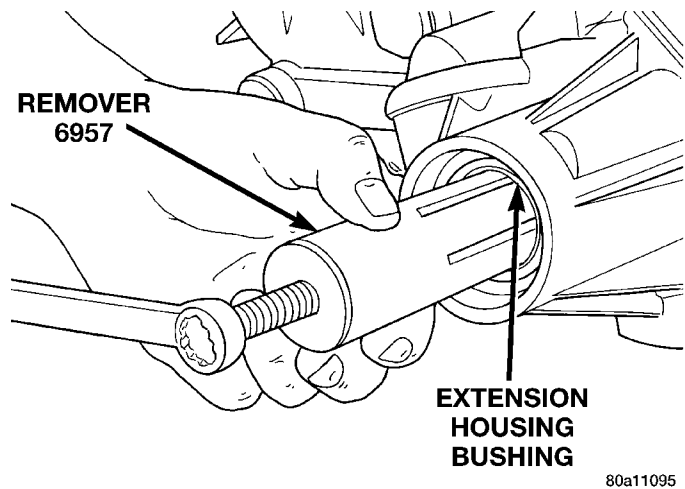

Fig. 37 Bushing Removal—Typical
(1) Remove overdrive housing yoke seal.
(2) Insert Remover 6957 into overdrive housing. Tighten tool to bushing and remove bushing (Fig. 37).